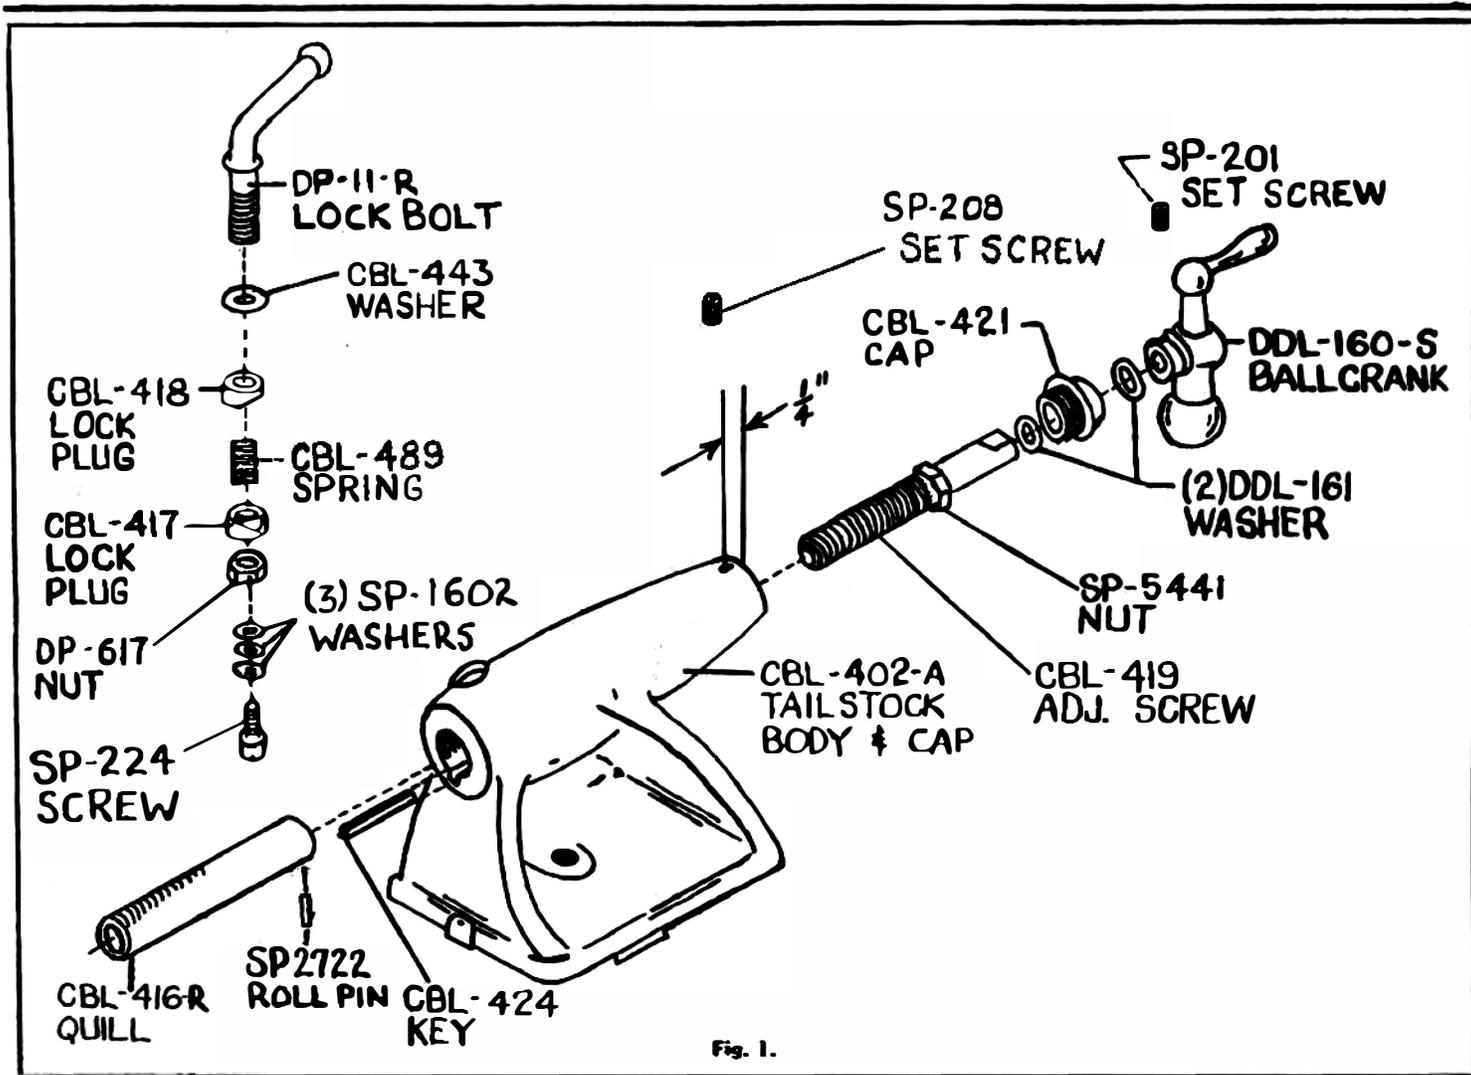

Fig. 1.
Assemble the parts as shown in Figure 1 - Page 1. Be certain that the concave surfaces of the locking plugs match each other. Tighten Screw SP-224 securely: After this assembly is in place in the tailstock with the quill installed, the Lock Handle cannot be unscrewed because the three washers, SP-1602, prevent it from doing so when they make contact with the DP-617 Nut.
5. Replace CBL-419 Adjusting Screw, CBL-421 Cap, DDL-161 Washers and DDL-160-S Ball Crank (see Fig. 1 - Page 1).